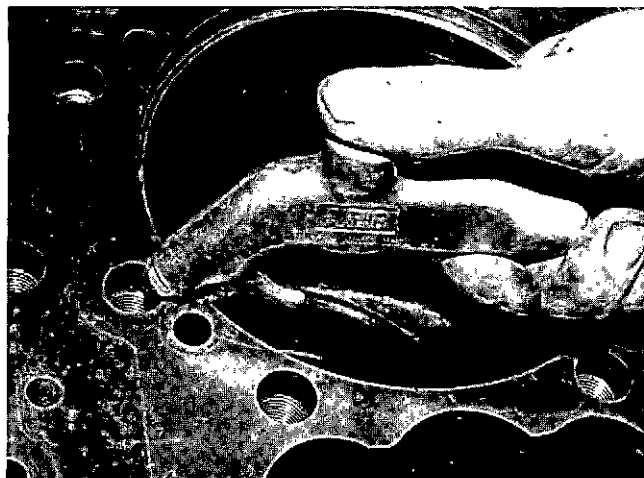

Fig. 1-1-3, V40121. Cleaning cylinder head capscrew hole
1. Blow all dirt or cleaning fluid from capscrew holes with an air jet. Fig. 1-1-3.